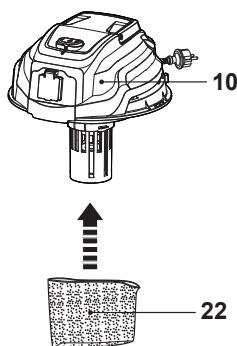
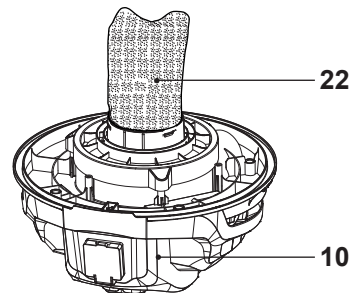

Fig. 10
Fig. 19
- > Slide the foam sleeve (22) onto the motor unit (10) (Fig. 10). Ensure it sits properly in position. Refer to Fig 19.
Use the foam sleeve (22) during wet vacuuming operations (Fig. 19). Operating the product without the foam sleeve (22) can damage the motor unit.